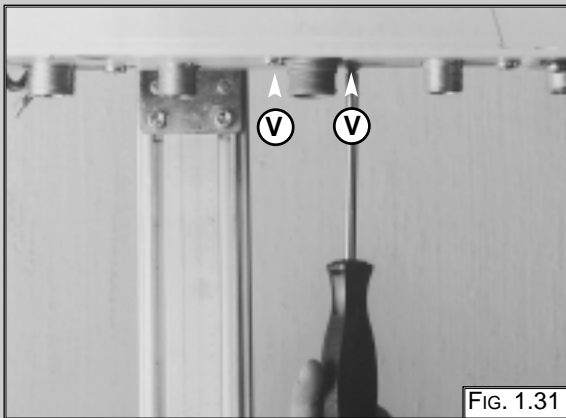

FIG. 1.31
4. Remove the screws "V" from the bottom of the gas valve (FIG. 1.31);